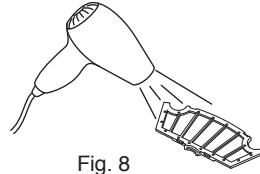

Fig. 8
6. Clean the HEPA dust filter with a hairdryer or the dust brush (Refer Fig . 8 and Fig. 9).